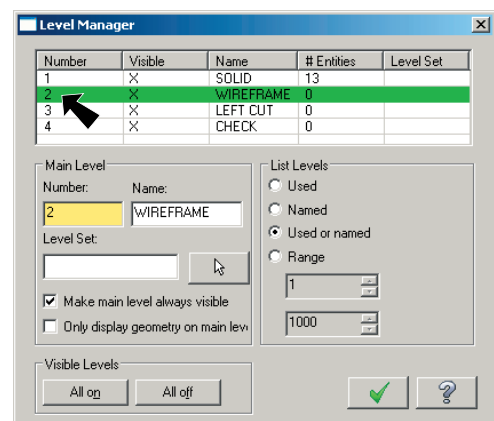

Fig. 20
Step 5. Continue and create two more Levels as shown here and Fig. 20.
Step 6. Click the **2** in the Number column to make **Level 2 WIREFRAME** active and click OK . Fig. 20.